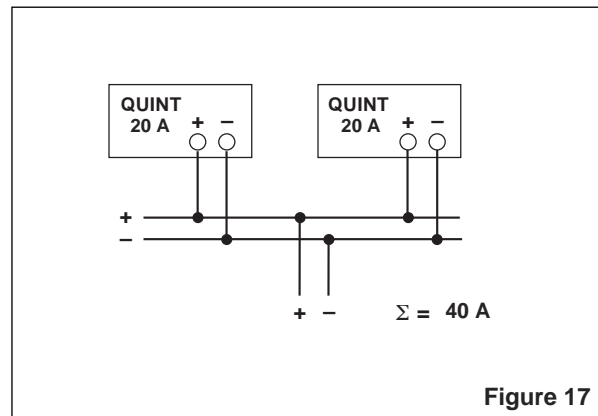

Figure 17
7.5. Power Increase (Figure 17)